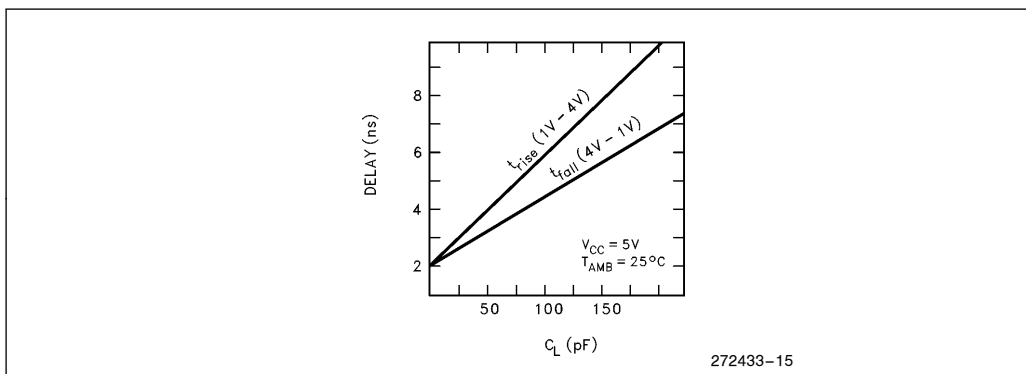

Figure 14
5. Specified for a 50 pF load, see Figure 14 for rise and fall times outside 50 pF.
6. See Figure 14 for rise and fall times.
Figure 14 shows the correct reset sequence when first applying power to the processor. An external clock connected to CLKIN must not exceed the  $V_{CC}$  threshold being applied to the processor. This is normally not a problem if the clock driver is supplied with the same  $V_{CC}$  that supplies the processor. When attaching a crystal to the device,  $\overline{\text{RESIN}}$  must remain active until both  $V_{CC}$  and CLKOUT are stable (the length of time is application specific and depends on the startup characteristics of the crystal